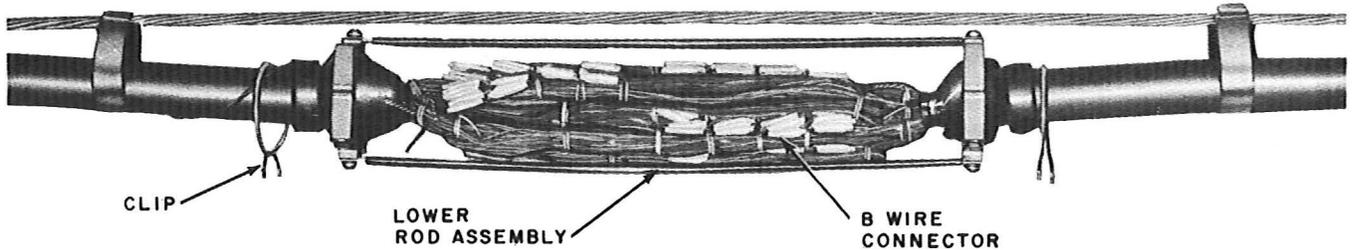

Fig. 5—Completed Splice
4.03 Splice the conductors in the usual manner. A completed splice using the foldback method and B Wire Connectors is shown in Fig. 5.